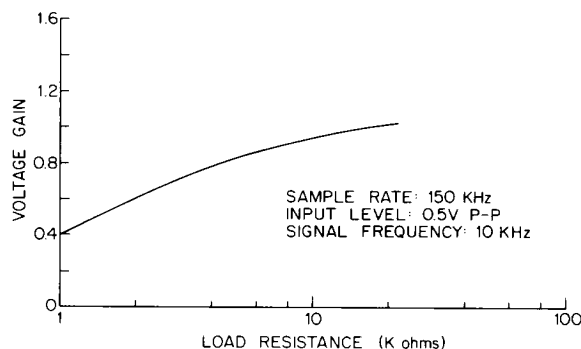

Figure 7. Dependence of Gain on Load Resistance.
Figure 7 shows the loading effect of the output terminating resistor. The data indicates the output source followers have approximately 4000 ohms internal impedance. For this test each output was connected through a terminating resistor to ground, thus preventing any interaction between the two output followers.
2. The value of gain depends on the output termination resistance. See Fig. 7.